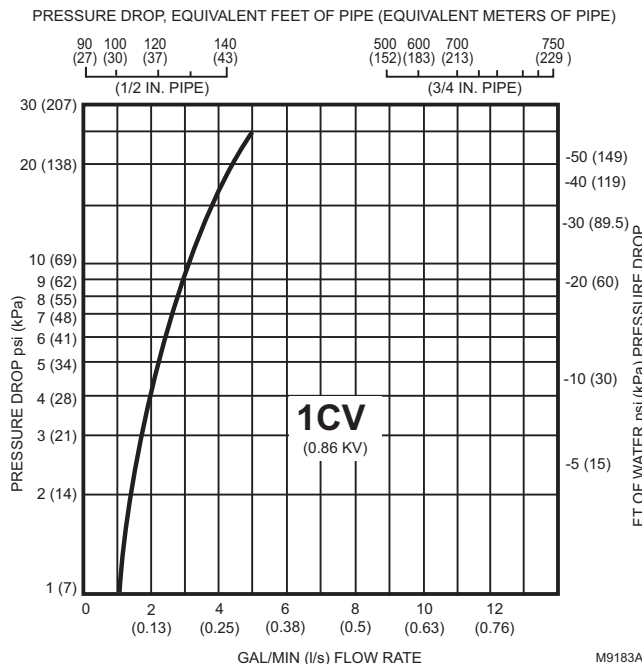

Fig. 3. Flow characteristics of 1 Cv (0.86 kv) flow.
The pressure drop in psi (kPa), equivalent ft (m) of pipe, or feet of water (kPa) may be calculated from Fig. 3 through 8 as follows:
3. Select the graph corresponding to the Cv (kV) rating (Fig. 3 through 8).